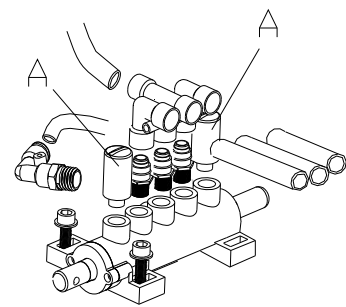

Fig 13
2. Loosen the valve Muffler (A) which belong to Jaws open and close Pedal and Bead Breaker Pedal; **(Fig 13)**
3. Clean the mufflers with compressed air, please replace it referring to the spare parts list if it is damaged. **(Fig 13)**